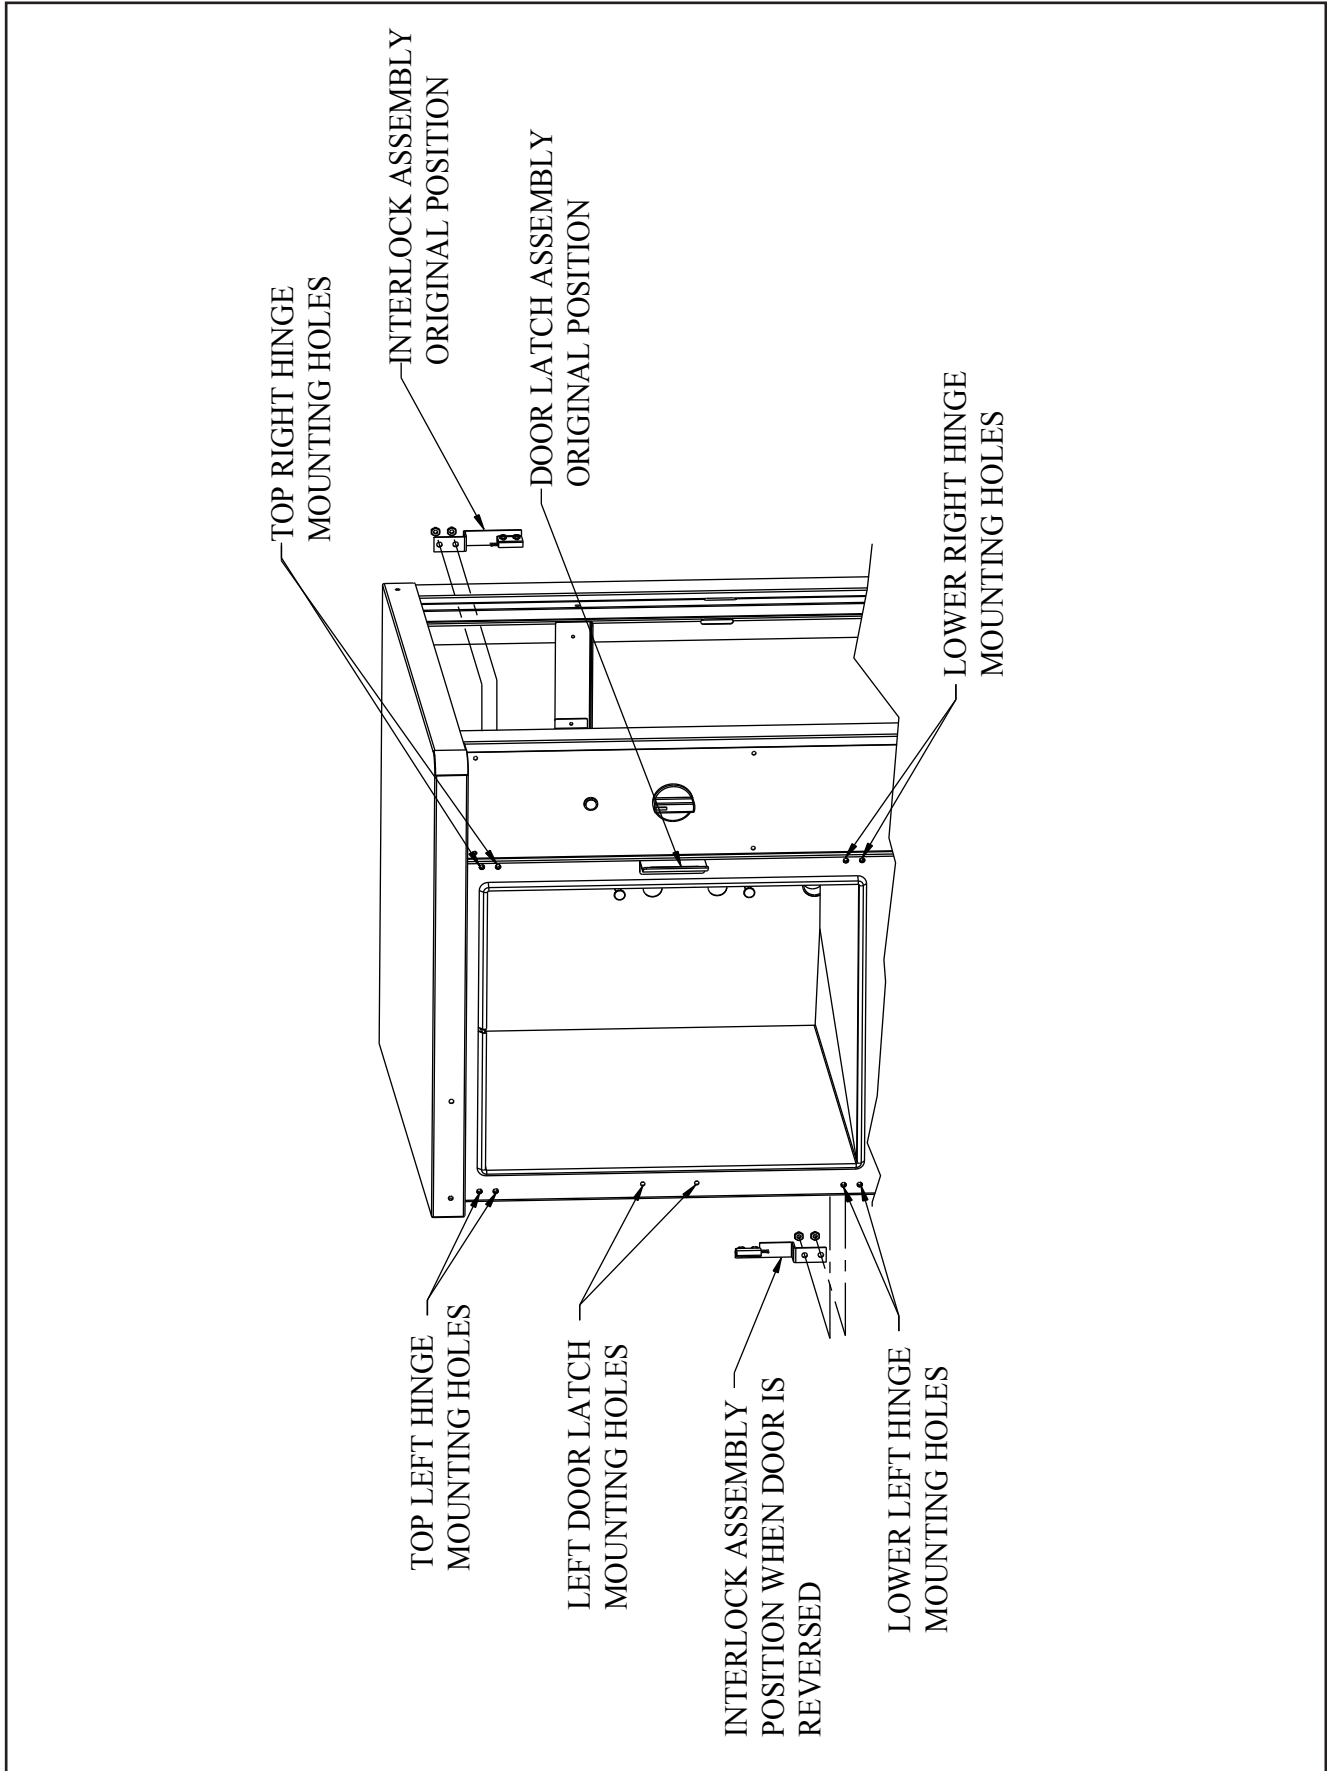

Figure 2-1 Typical Door Layout
7. Remove the door interlock assembly by unscrewing the two nuts that hold it in place (assembly is attached to the screws in the top right hinge mounting holes, see fig. 2-1).
9. Using the nuts removed in step #6, reinstall the door interlock assembly onto the 2 screws in the lower left hinge mounting holes (see fig. 2-1) with by moving the assembly over the cooking cavity to the other side of the unit. Rotate the door interlock assembly 180° for installation, so that the switch is now facing up.